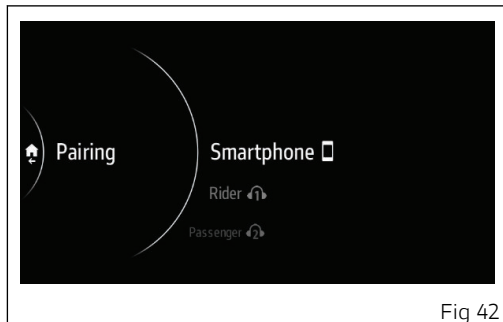

Fig 42
- The types of devices that can be managed by the instrument panel (Fig 42) are displayed. Select